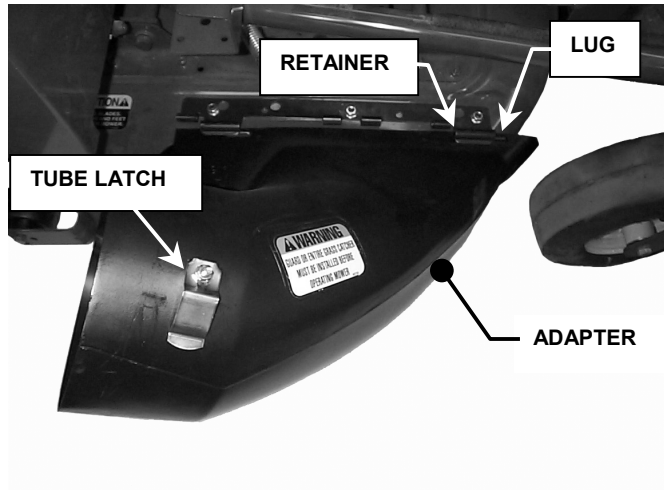

FIGURE 1.7
- E. Attach tube latch to deck adapter. Insert one 1/4-20 x 3/4" Carriage bolt from inside through lower hole in adapter. Place Tube Latch over bolt, followed by 1/4" Internal Tooth lock washer and secure with 1/4-20 hex nut. Align Tube Latch as shown and tighten securely. See Figure 1.7.
- F. Install front floor pan. Tighten (4) knobs securely.